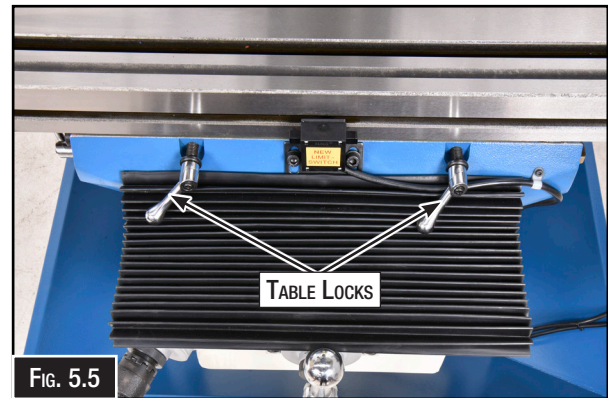

FIG. 5.5
• Locking The Work Table (Fig. 5.5)